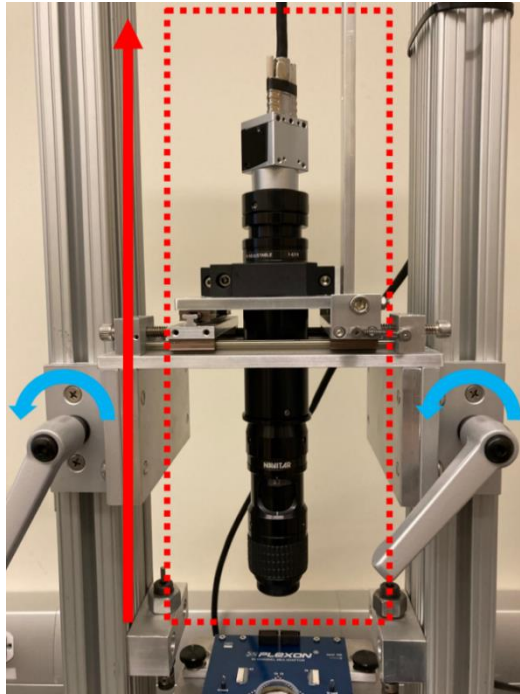

Fig. 114: Raising or lowering the vertical (z-) position of the camera assembly.
- 1) Raise the camera stage assembly on the MEASSuRE frame by loosening the two knobs following a counter-clockwise motion (cyan in **Fig. 114**), moving the camera platform up (red in **Fig. 114**), and re-tightening the knobs by applying a clockwise motion.